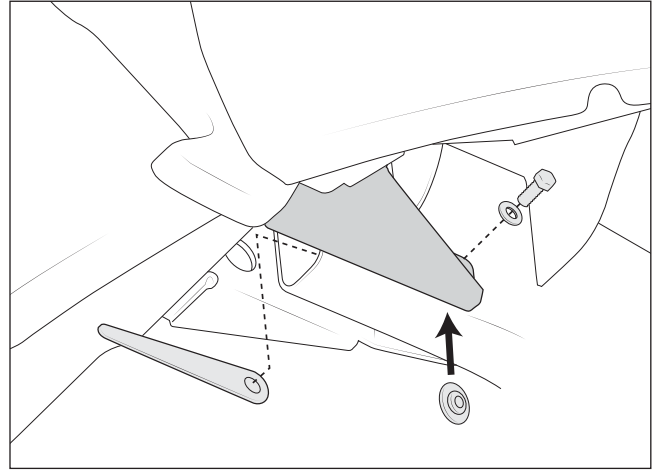

Figure 24
**NOTE: When tightening the corners, tighten the tow hook bolts first. Torque ALL bolts to 70 lb-ft. Torque compatibility hardware to 172 lb-ft. On trucks without compatibility beam holes, insert machined reducer bushings BEFORE tightening hardware (see fig. 24).**
4. Use the supplied 3/8" bolt, washer, and flag nut in this location (fig. 24). Torque to 37 lb-ft.